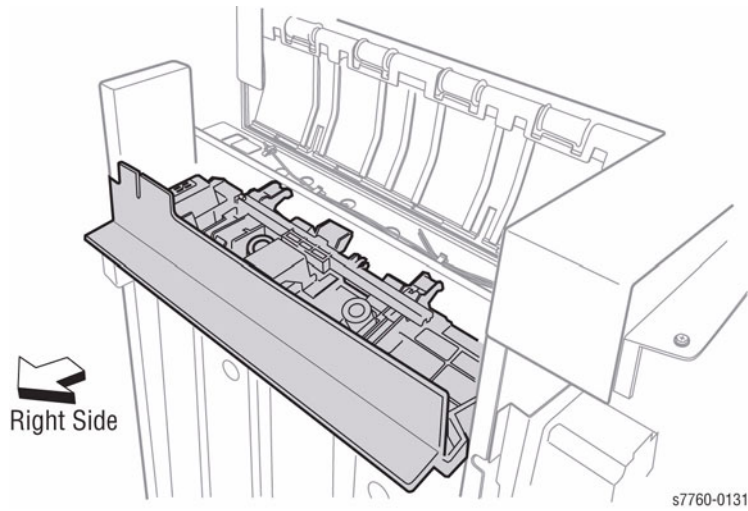

Figure 4 Removing Eject Chute Assembly
- c. Remove the Eject Chute Assembly (Figure 4).